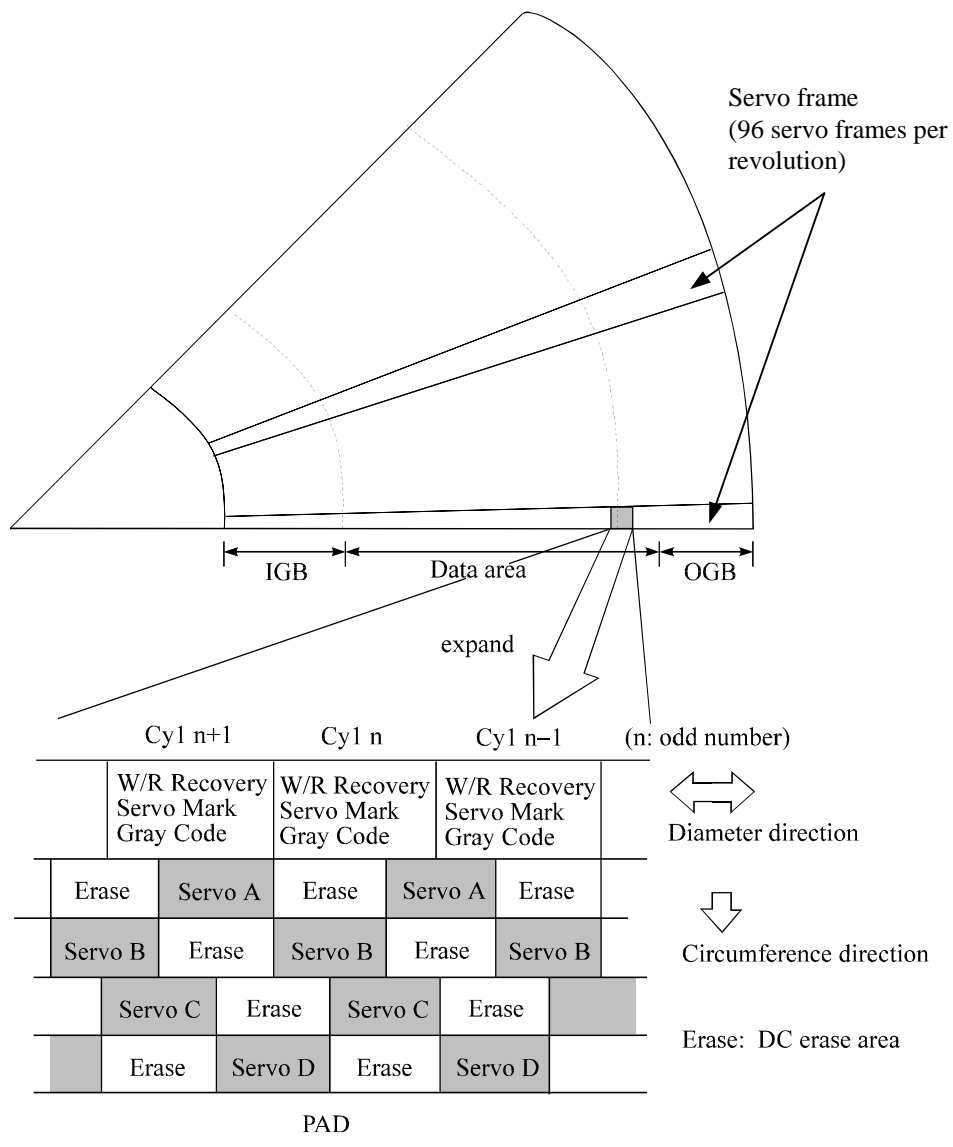
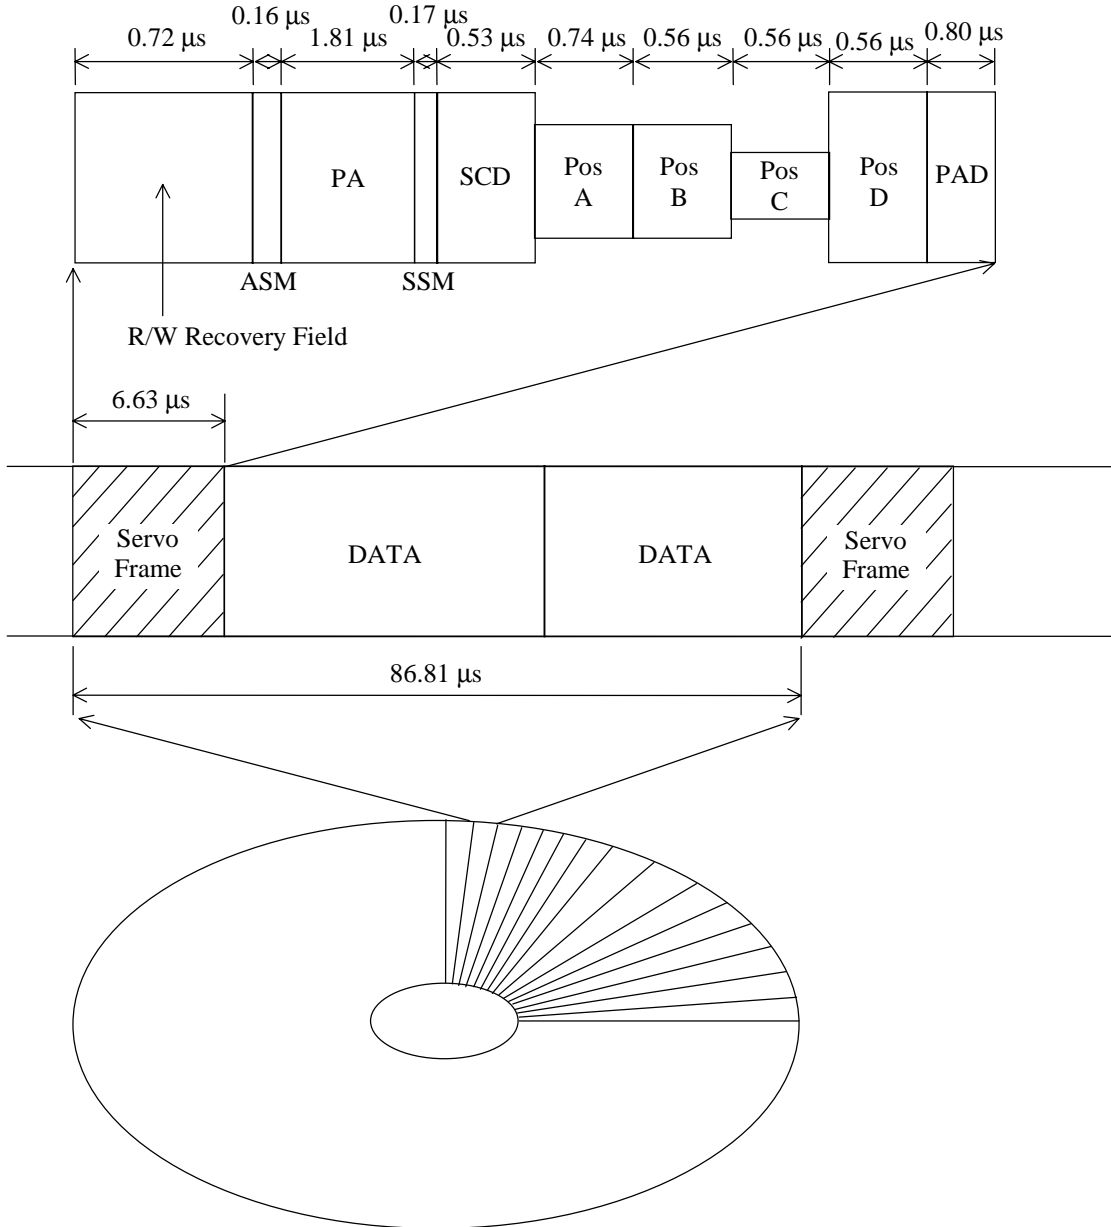

Figure 4.5 Physical sector servo configuration on disk surface
Figure 4.6 96 servo frames in each track
Figure 4.5 describes the physical layout of the servo frame. The three areas indicated by (1) to (3) in Figure 4.6 are described below.
(1) Inner guard band
The servo frame consists of 5 blocks; write/read recovery, servo mark, gray code, Pos A to D and PAD. Figure 4.6 shows the servo frame format.